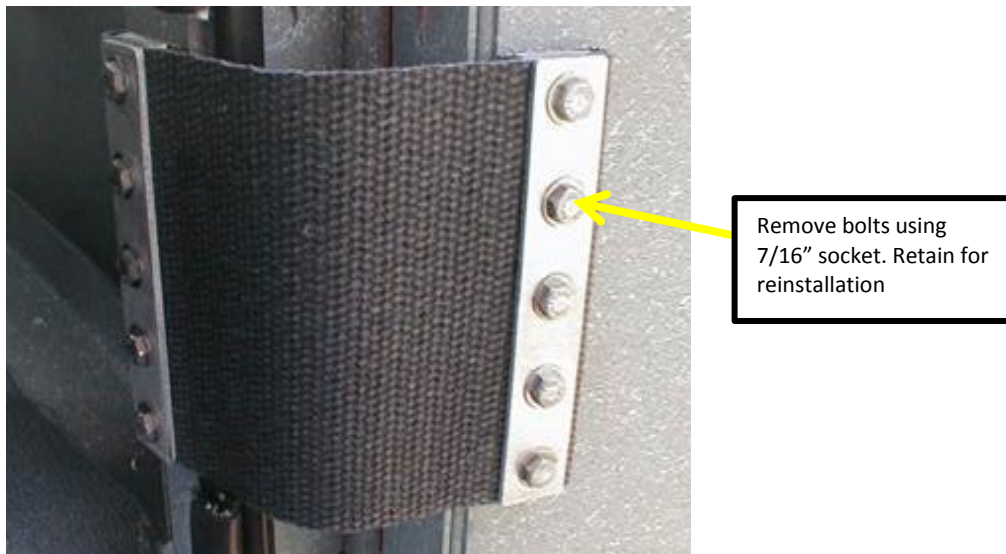

FIG 5-1
1. Remove door check strap from door. Take care not to allow the door to swing open and hit / damage the side of the cab. Refer to FIG. 5-1.